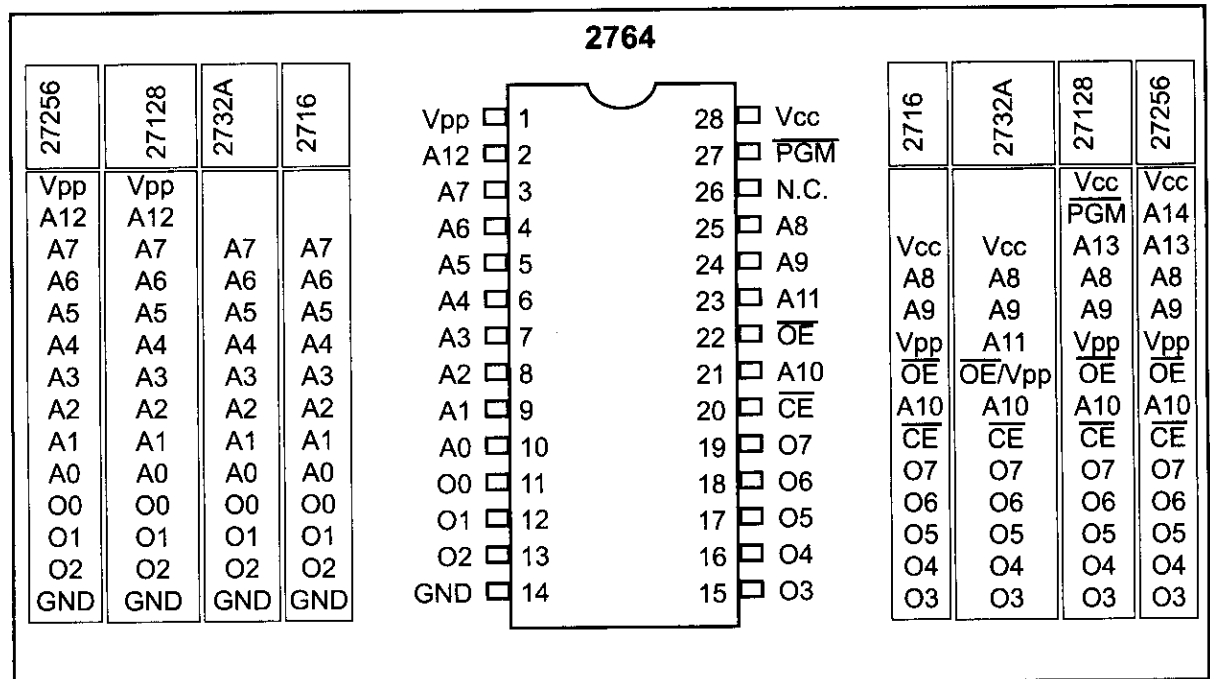

Figure 0-10. Pin Configurations for 27xx ROM Family
EPROM was invented to allow making changes in the contents of PROM after it is burned. In EPROM, one can program the memory chip and erase it thousands of times. This is especially necessary during development of the prototype of a microprocessor-based project. A widely used EPROM is called UV-EPROM, where UV stands for ultraviolet. The only problem with UV-EPROM is that erasing its contents can take up to 20 minutes. All UV-EPROM chips have a window through which the programmer can shine ultraviolet (UV) radiation to erase the chip's contents. For this reason, EPROM is also referred to as UV-erasable EPROM or simply UV-EPROM. Figure 0-10 shows the pins for UV-EPROM chips.